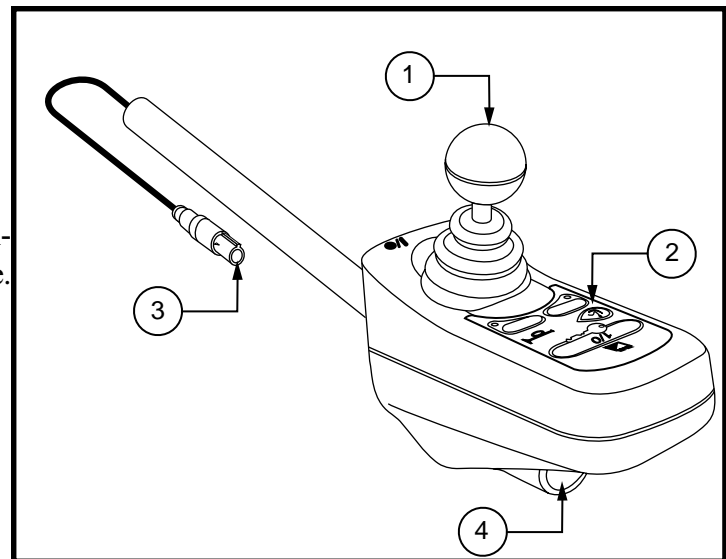

Figure 25. Europa Master Remote
- Europa master remote (see figure 25.)